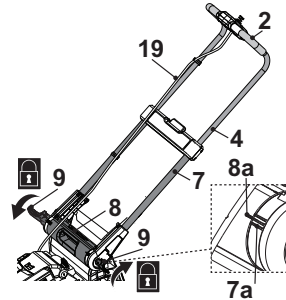

Fig. 2
3. Secure the handle assembly by folding up the clamp lever (9) towards the transport handle (8). If clamp lever (9) cannot be folded, loosen it and fold again. If it is too loose, tighten it by turning the clamp lever (9) clockwise (Fig. 2).